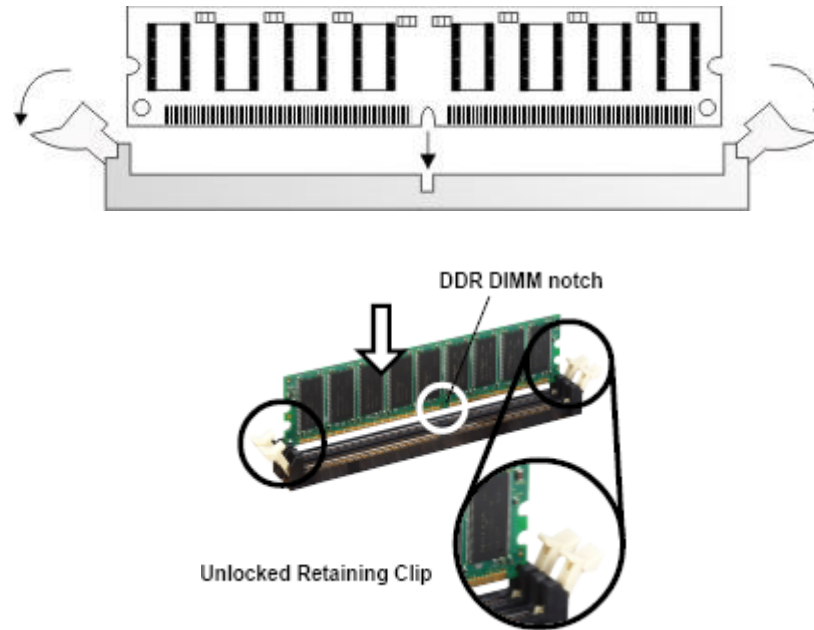

Figure 4-6: Installing the DIMM Module
Step 1: Make sure the two handles of the DIMM socket are in the "open" position, leaning outward (**Figure 4-6**).